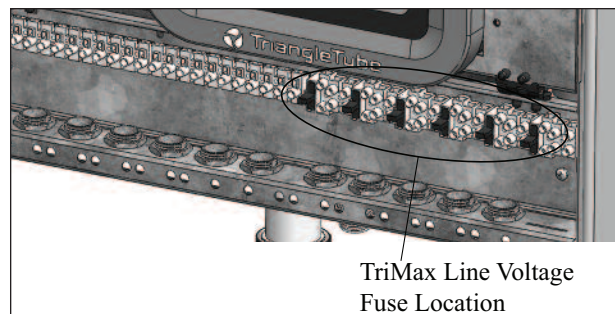
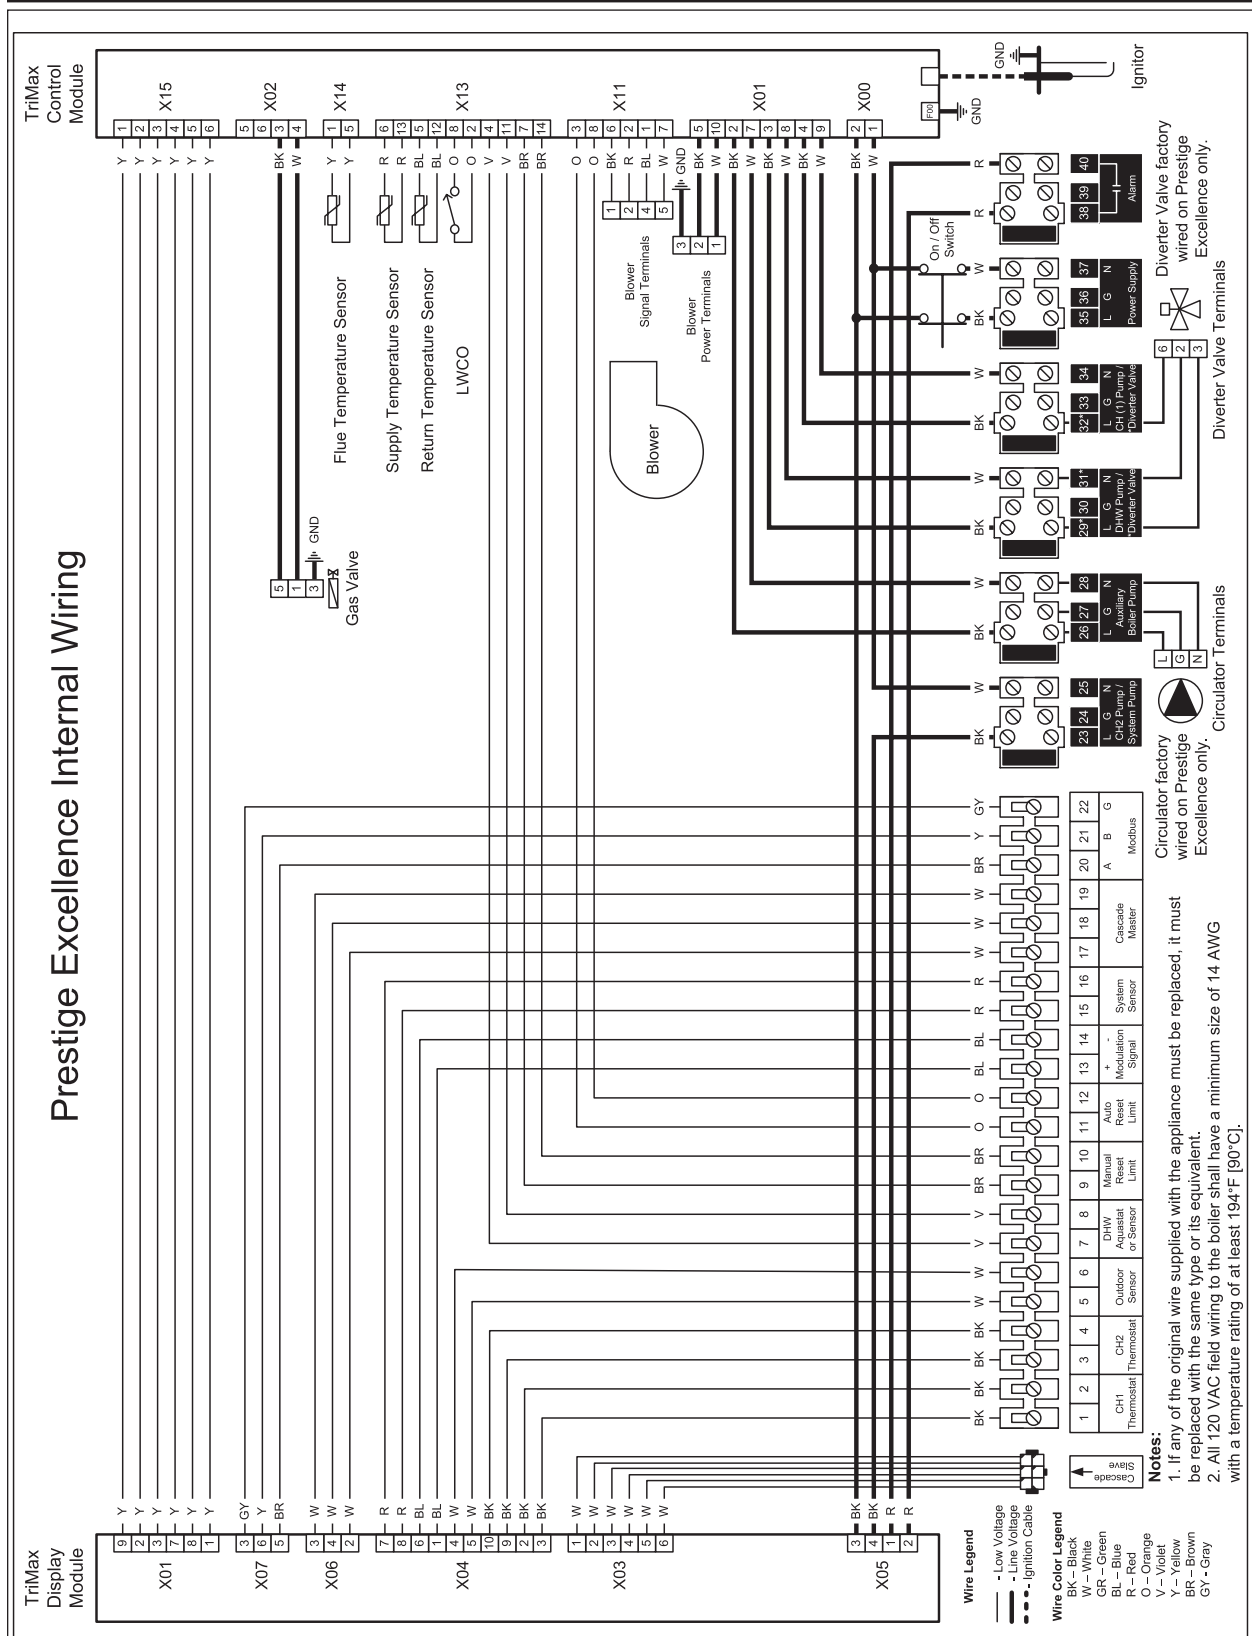

Fig. 18A: Fuse Location on the line voltage Terminals
Fig. 19: PRESTIGE Excellence Boiler Factory Wiring
Additional fuses are also located on the line voltage terminals as shown in Fig. 18A and Fig. 19.
1. Connect a dedicated 120 VAC/15A service to the line voltage terminal strip on the wiring panel below the PRESTIGE control module, as shown in Fig. 19, page 29.
1. The Boiler circulator is prewired to the line voltage terminal strip on the wiring panel below the PRESTIGE control module, as shown in Fig. 19 on page 29. The Boiler circulator is enabled for any CH1, CH2, or DHW call. This circulator is used to supply heat to the central/space heating loop as well as the internal Indirect Water Heater.
2. The Diverter Valve is prewired to the line voltage terminal strip on the wiring panel below the PRESTIGE control module, as shown in Fig. 19 on page 29. The Diverter Valve will direct water flow to the CH Supply Connection at the bottom of the boiler during a CH1 or CH2 call or to the internal Indirect Water Heater during a DHW call.
3. Connect the System circulator to the line voltage terminal strip on the wiring panel below the PRESTIGE control module, as shown in Fig. 19 on page 29. The System circulator is enabled during a CH1 or CH2 call with the factory default Trimax Settings. This circulator is typically used to circulate water in the secondary CH loop when zoning with zone valves.
1. Connect the external monitoring device to the line voltage terminal strip on the wiring panel below the PRESTIGE control module, as shown in Fig. 19 on page 29.
1. Connect the room thermostat or dry contact end switch to the low voltage terminal strip on the wiring panel below the PRESTIGE control module, as shown in Fig. 19 on page 29.
2. Connect the additional boiler limit to the low voltage terminal strip on the wiring panel below the PRESTIGE control module, as shown in Fig. 19 on page 29.
1. Connect the system temperature sensor to the low voltage terminal strip on the wiring panel below the PRESTIGE control module, as shown in Fig. 19 on page 29.